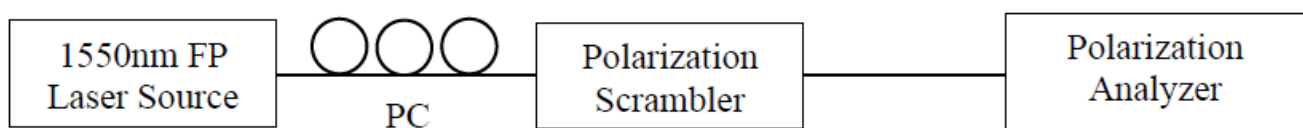

Figure 3: Performance Evaluation Setup
The performance of NOPS is finely-tuned at room temperature before shipment to ensure the DOP specified in the datasheet is met for all input polarization states. So, please don't change any pre-setting on the driving board. Figure 3 shows the setup for a fine-tuning process by using a polarization controller (PC) and polarization analyzer.